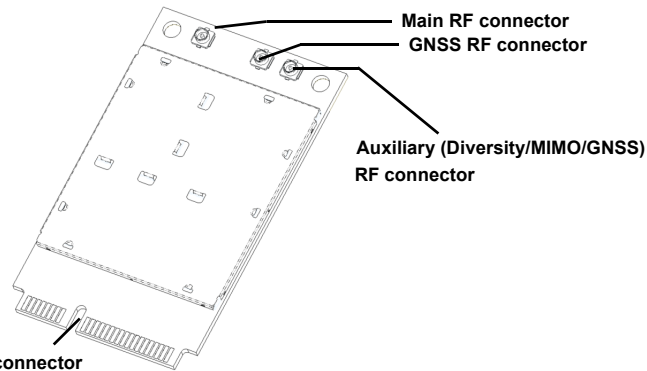

Figure 3-1: Module Connectors (Preliminary shield design, subject to change)
- Use Hirose U.FL connectors (3 mm x 3 mm, low profile; model U.FL #CL331-0471-0-10) to attach antennas to connection points on the module, as shown in Figure 3-1 on page 34.
- Connect to system ground using the two mounting holes at the top of the module (shown in Figure 3-1 on page 34).